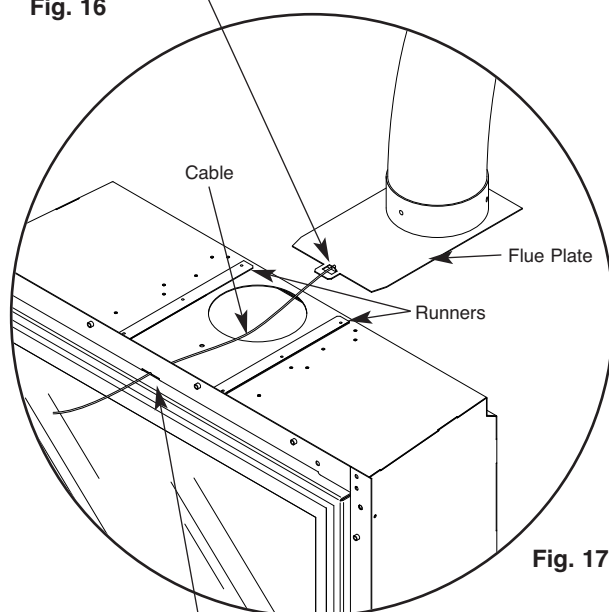

Fig. 17
3. Insert the end of the flexible flue liner into the flue plate ensuring that the cable is at the front and secure with the three self tapping screws provided, then seal around the joint using a proprietary fire cement or mastic (Fig. 17).
6. Locate the front of the flue plate into the runners on top of the fire box (Fig. 17).
7. When the flue plate is located in the runners carefully pull the cable from the front of the fire and slide the fire box into the opening at the same time. The flue plate will slide through the runners and locate the flue over the opening in the fire box (Fig. 17).